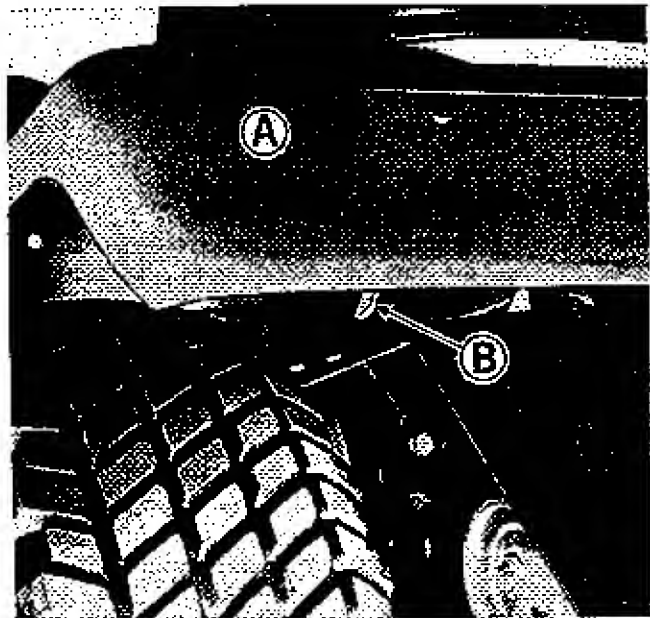
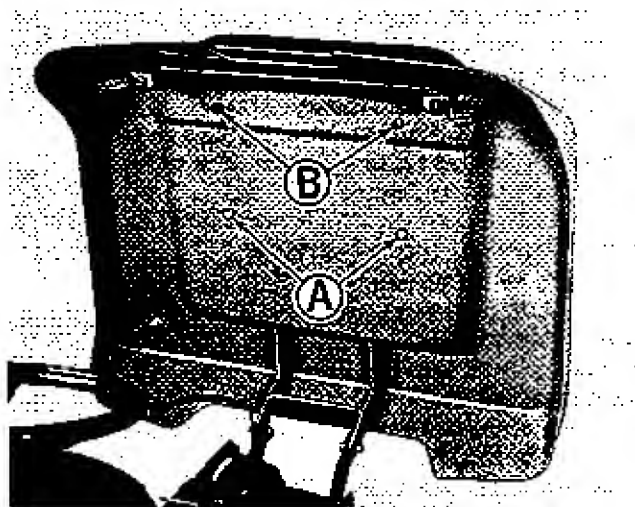
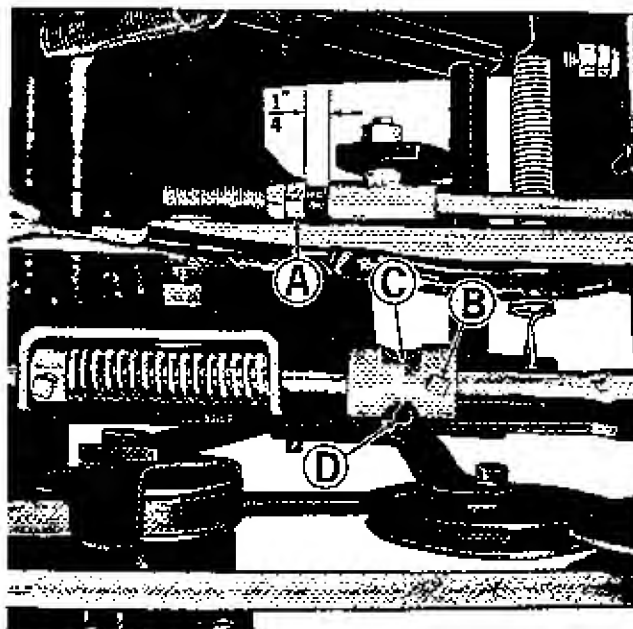
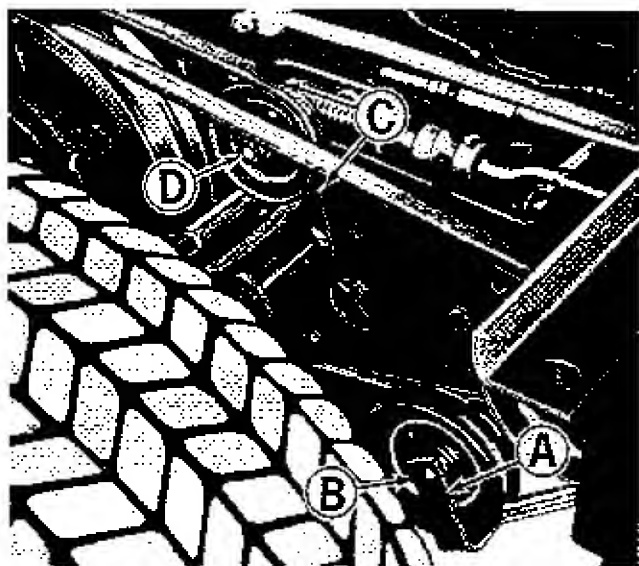

Figure 7. Seat deck release at front of seat deck.
Figure 8. Seat deck raised.
Figure 9. Clutch free travel and shuttle drive adjustment.
Figure 12. Belt stop adjustments located under seat deck.
See figure 7. The tractor seat deck (A) is hinged at the back. To raise the seat deck, reach under it from each side and pull the two locking levers (B) to the outside. As you hold the locks out raise the seat deck as shown in figure 8. Raising the seat deck in this manner will expose many of the transmission adjustment and maintenance areas.
See figure 8. The tractor seat is properly adjusted when the operator can comfortably operate the clutch and brake pedal while sitting back in the seat. The seat can be adjusted forward or back in any of four positions. If adjustment is required, proceed as follows:
1. See figure 8. Position the seat deck as shown by following the instructions under Raising the Seat Deck on page 9.
2. Remove the two cap screws and lock washers at (A).
3. Remove the two nuts and lock washers at (B).
4. If the seat is to be positioned in either of the two forward sets of mounting holes the two rubber spacers are placed over the studs at (B) and used between the seat and seat deck. If the seat is to be positioned in either of the two
See figure 9. The clutch free travel is correct when there is  $\frac{1}{4}$ " between the nuts (A) and the rod guide when the clutch brake pedal is released and pulled rearward as far as it will go. If adjustment is required, proceed as follows:
1. Raise the seat deck as shown in figure 8, by following the instructions under Raising the Seat Deck on page 9.
2. Using two wrenches hold the forward nut at (A) stationary with one wrench while turning the rearward nut counter-clockwise slightly with the other to separate them.
4. Turn the forward nut at (A) as necessary so that the distance between it and the rod guide is  $\frac{1}{4}$ " as shown in figure 9.
5. Using two wrenches hold the forward nut at (A) stationary while turning the rear one clockwise to tighten the two nuts together securely.
6. See figure 12. Check belt stop (A) and adjust it if necessary so it does not rub the drive belt when the clutch brake pedal is released. When the clutch brake pedal is depressed, belt stop (A) should pick up the drive belt to aid in disengaging it. If adjustment is required, loosen nut (B) slightly. Be sure to tighten nut (B) securely after the adjustment is completed.
3. See figure 9. Loosen set screw (B). Slide brake detent (C) forward or back as necessary to center it on brake pin (D). Tighten set screw (B) securely.
10. See figure 12. With the shuttle drive control lever locked in the forward drive position, belt stop (C) should be positioned so there is 1/16" to 1/8" clearance between each leg of it and the clutch belt. If adjustment is necessary, loosen nut (D) slightly. Tighten nut (D) securely after the adjustment is completed.